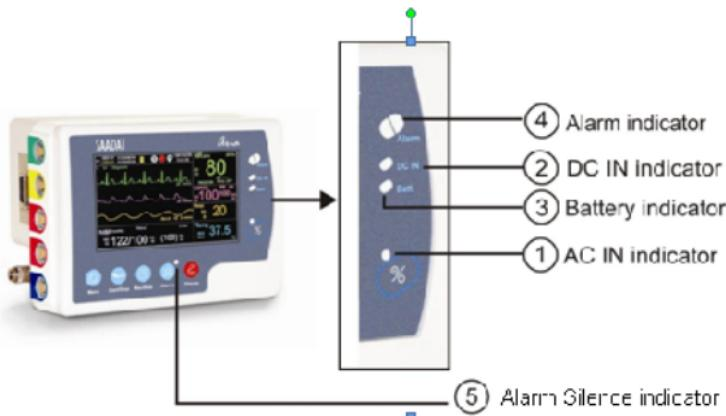

Figure1-2 Indicators
There are five indicators for power, alarm, battery and alarm silence on the front panel of the system. The green indicator lights, when the device is powered on (Figure 1-2①), the battery indicator is green when the battery is fully charged otherwise it is orange (Figure 1-2③). The alarm indicator flashes when an alarm occurs (Figure 1-2④). If alarm indications are disabled for an unlimited period of time, alarm indicator flashes red.
(Figure 1-2⑤)